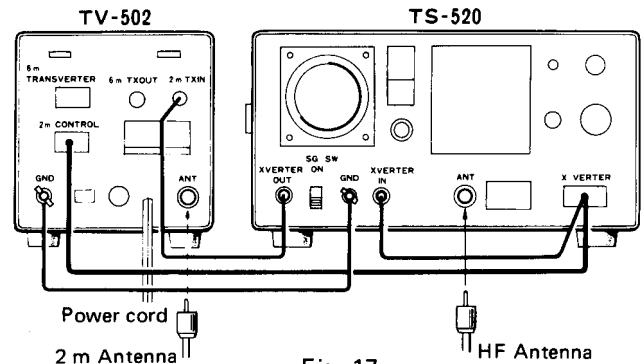

Fig. 17
(1) Fig. 17 shows the method of connecting TV-502 to TS-520.